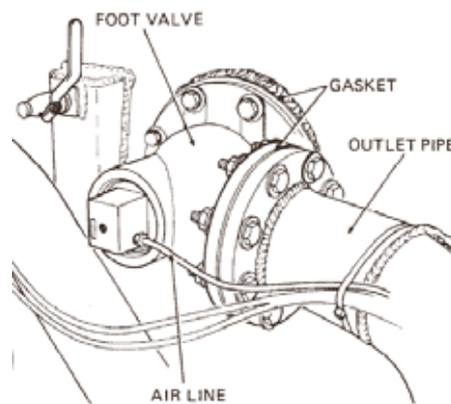

Figure 12 Foot Valve Assembly
- b. Remove the air line from the appropriate foot valve assembly (Figure 12), by pressing the brass collar into the connector and removing the air line.